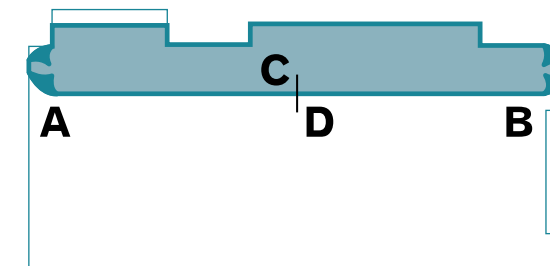

Figure 3.3 Marking the position
- ▶ When satisfied that the fit on the first edge is correct, use a pencil to trace the opposite edge onto the subfloor (line A-B in Figure 3.3).
- ▶ In the centre of the room, draw a line on both the sheet and subfloor square to the main axis of the sheet (line C-D in Figure 3.3).